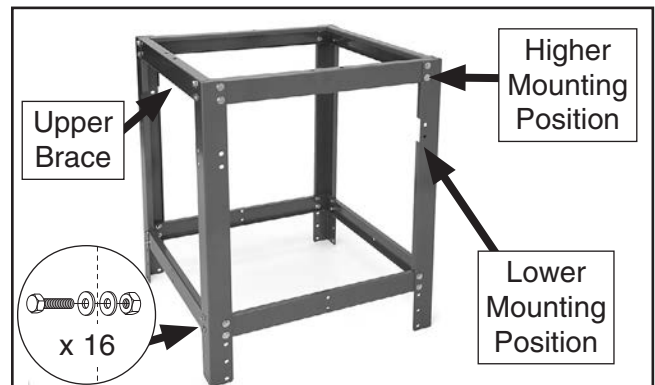

Figure 5. Upper braces attached to stand assembly.
2. Attach upper stand braces to the assembly using (16) $\frac{3}{8}$ "-16 x $\frac{3}{4}$ " hex bolts, (32) $\frac{3}{8}$ " flat washers, and (16) $\frac{3}{8}$ "-16 lock nuts (see **Figure 5**). **Note:** Attach braces to the lower mounting position to fit under an 8' ceiling.